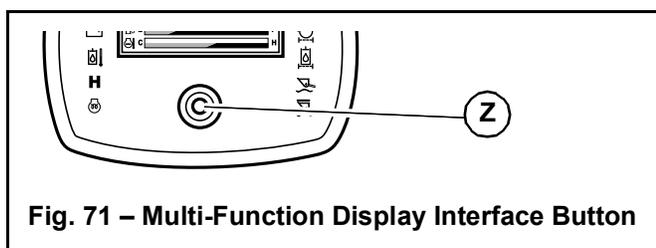
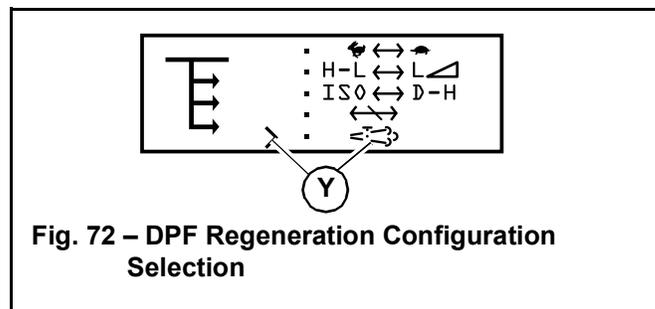

Fig. 71 – Multi-Function Display Interface Button
Fig. 72 – DPF Regeneration Configuration Selection
1. Hold down the interface button (Z, Fig. 71) on the multi-function display until the DPF Regeneration configuration selection screen (Fig. 72) displays.
2. Press and release the interface button until the selection caret points to the  selection (Y, Fig. 72). Press and hold the interface button until the DPF Regeneration Configuration (Fig. 72) screen displays.